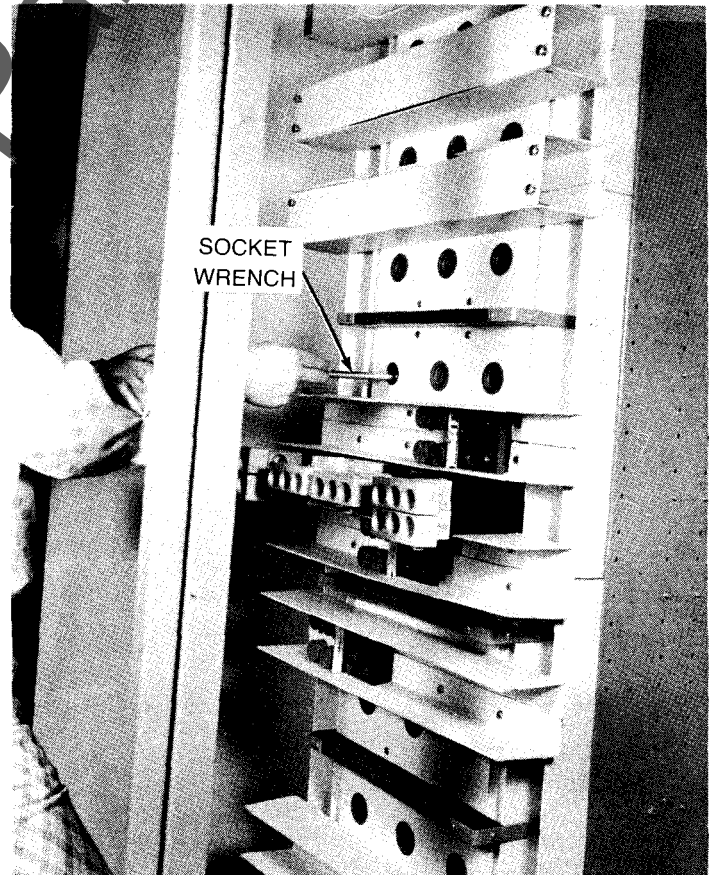

FIGURE 53.
3. (Fig. 53) Tighten bolts with socket wrench.